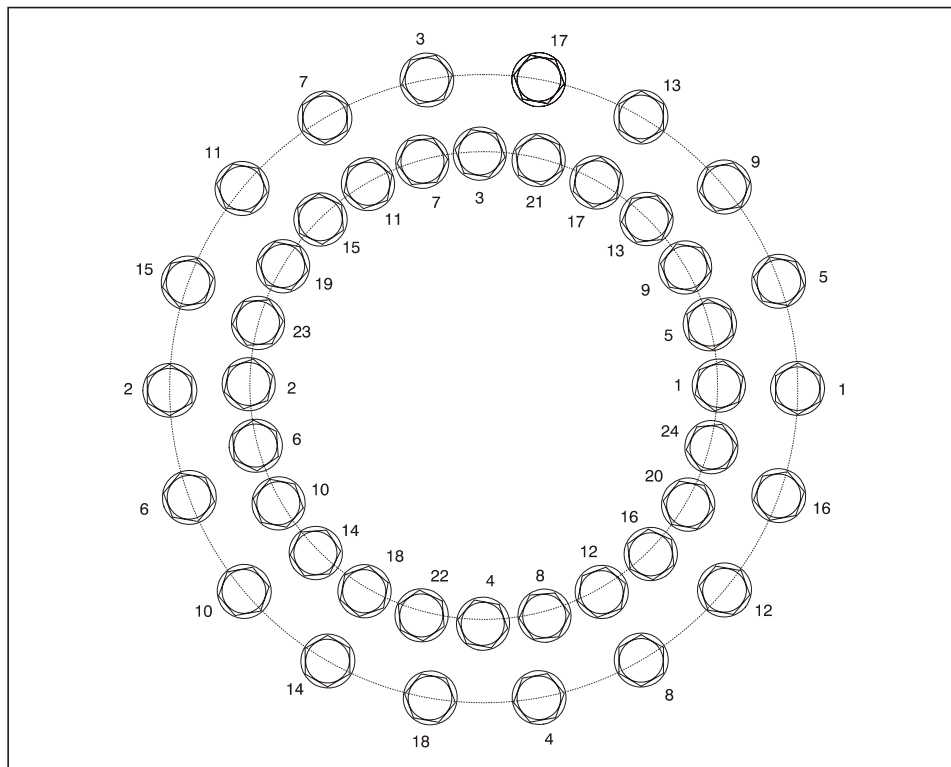

Figure 3-15. Swing Bearing Torquing Sequence
- b. Line up high spot (blue) of bearing with center tooth of worm gear. Set backlash to 0.008 - 0.010 inch (0.20 - 0.25 mm). Tighten capscrews as shown in Figure 3-15., Swing Bearing Torquing Sequence.
- g. Following the torque sequence diagram shown in Figure 3-15., tighten the bolts to an initial torque of 130 ft. lbs. (175 Nm). Then following the same sequence, tighten to a final torque of 190 ft. lbs. (260 Nm).
3. Following the torque sequence shown in Figure 3-15., tighten the bolts to an initial torque of 130 ft. lbs. (175 Nm). Then following the same sequence, tighten the bolts to 190 ft. lbs. (260 Nm).